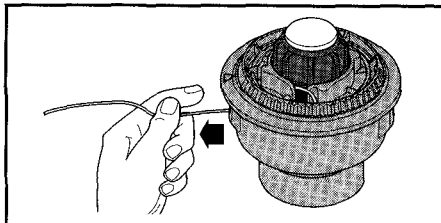

Fig. 21
4. Pull the line away from the spool until the line is tight against the inner reel (Fig. 21).